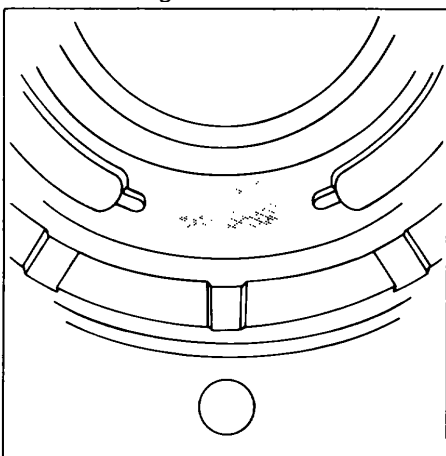

Figure 148.
23. Inspect pump cover (9) bronze face for signs of cavitation, excess wear, contamination or other damage. See Fig. 148.